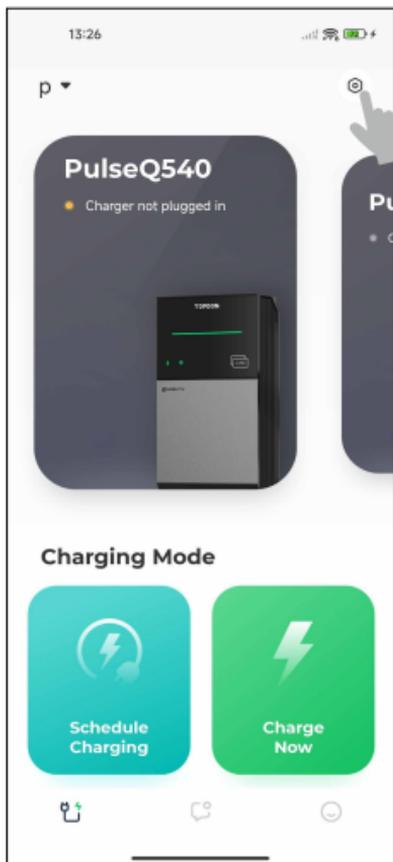
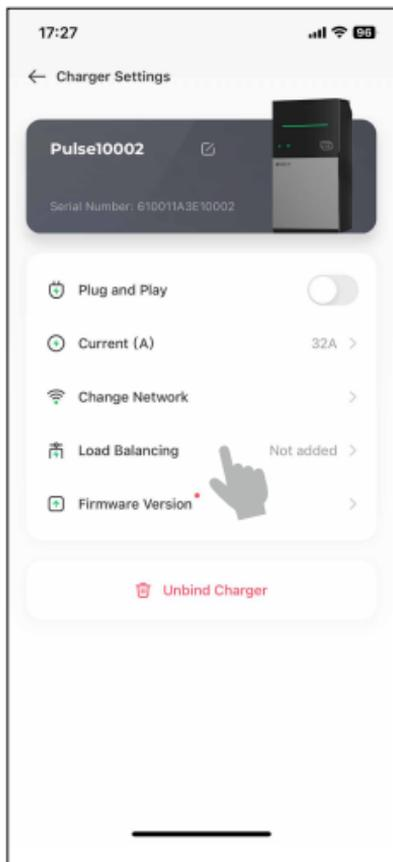

Fig. 3-1
Fig. 3-2
1. Open the PulseQ App. Tap the  icon on the upper-right corner (See Fig. 3-1). Then tap "Load Balancing" (See Fig. 3-2).